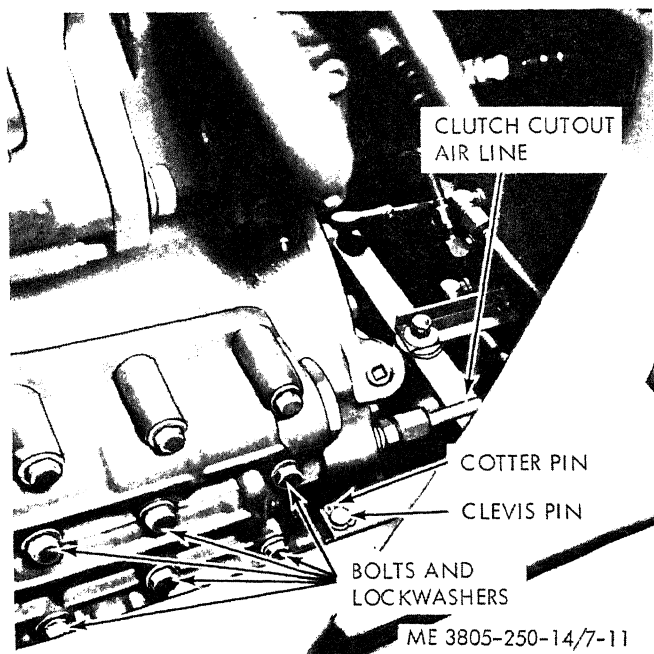

Figure 7-11. Transmission control valve, removal and installation.
(1) Disconnect the clutch cutout air line at the valve. Refer to figure 7-11.
(6) Install the main pressure regulator valve (3) a new gasket (2) and plug (1) in the valve body. Tighten the plug firmly. Install plug (10), new gasket (29), and plug (28), tightening the plugs firmly to prevent leakage.
(7) Install plug (10) if removed.
(8) Install spring seat (9) on cove side first on the main pressure regulator valve stem (3). Install the main pressure regulator spring (8), trimmer spring (7) and trimmer plug (6) into the valve bore. Install a new gasket (5) and plug (4). Tighten the plug firmly.
(9) Assemble cut-out valve spring (16) onto the clutch cut-out valve (15) and install them in the valve bore. Install seal ring (14) on cut-out plug (13), and install the plug in the smooth bore end of the retainer plug (11). Install a new gasket (12), and install the retainer plug assembly, tightening the plug firmly. Cover the exposed opening in the plug until the air line is connected to it.
e. Installation. Refer to figure 7-11.
(1) Install a new valve to transmission gasket, using oil soluble grease to retain it on the transmission.
(2) Position the valve on the transmission and secure it with fifteen $\frac{3}{8}$ -16 NC x $2\frac{1}{2}$ inch bolts, one $\frac{3}{8}$ -16 NC x 1 inch bolt, and sixteen $\frac{3}{8}$ inch lockwashers. Evenly tighten the bolts to 29 ± 3 pound-feet, starting at the center of the valve and working outward.
(3) Connect the shift linkage and insert clevis pin and its cotter pin.